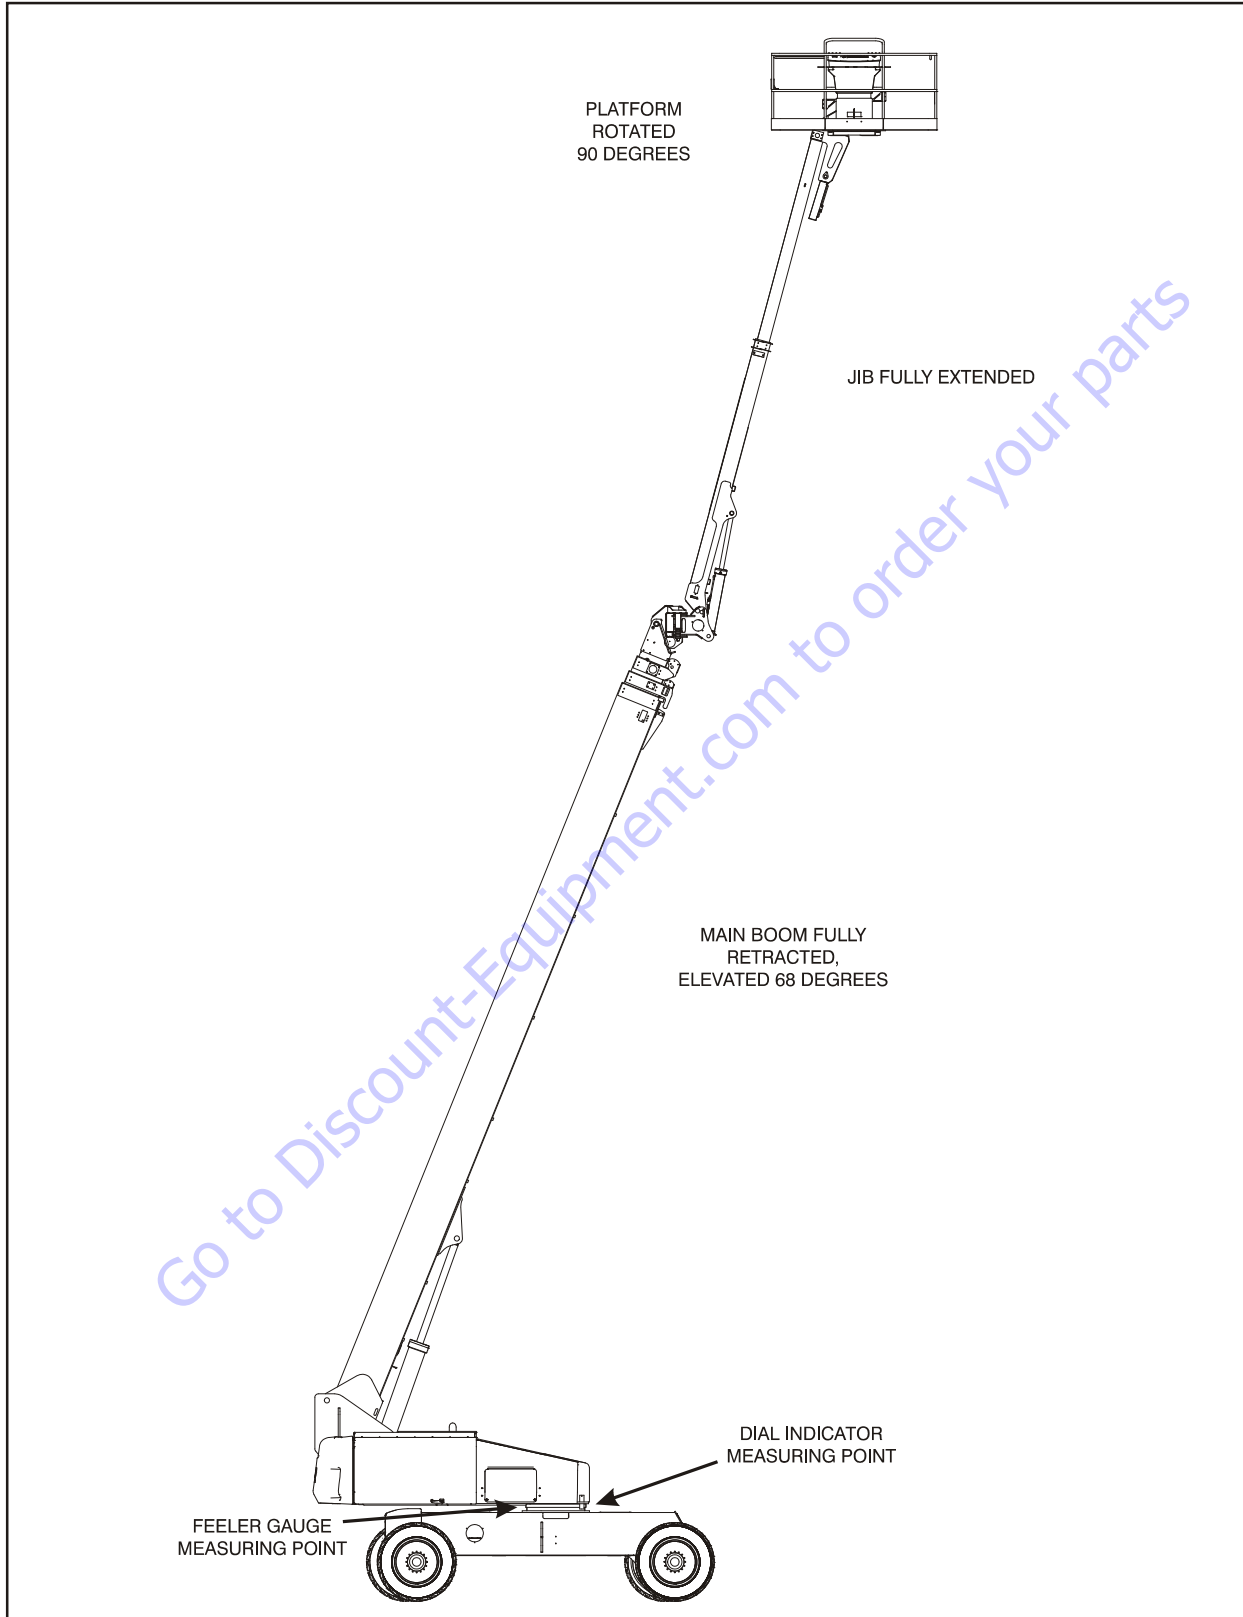

Figure 3-48. Swing Bearing Tolerance Boom Placement - Sheet 1 of 2
- a. Fully elevate the main boom. (See Figure 3-48.)
- b. At the position indicated on Figure 3-48., try to insert a 0.0015" feeler gauge between the bolt and hardened washer at the arrow indicated position.
1. From the underside of the machine, at rear center, with the main boom fully elevated and fully retracted, as shown in Figure 3-48., Swing Bearing Tolerance Boom Placement - Sheet 1 of 2, set up a magnetic base dial indicator as shown below and set the indicator to 0 (zero).